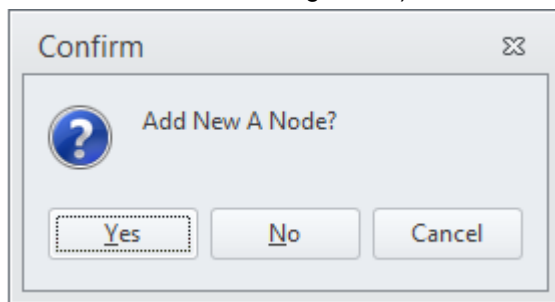

Figure 84 New railroad
- 9) The window in Figure 84 will appear if a new node is added (i.e., if the link does not start and end in existing nodes).